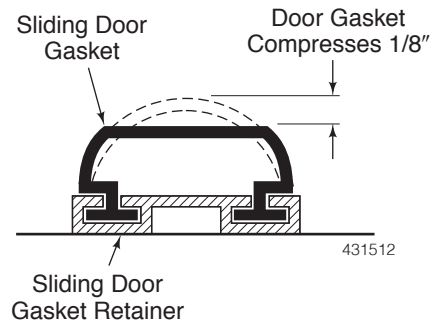

Figure 13
1. With the door in the closed position, the gasket should be compressed 1/8". Check the gasket at the four corners of the door for proper compression. See Figure 13.